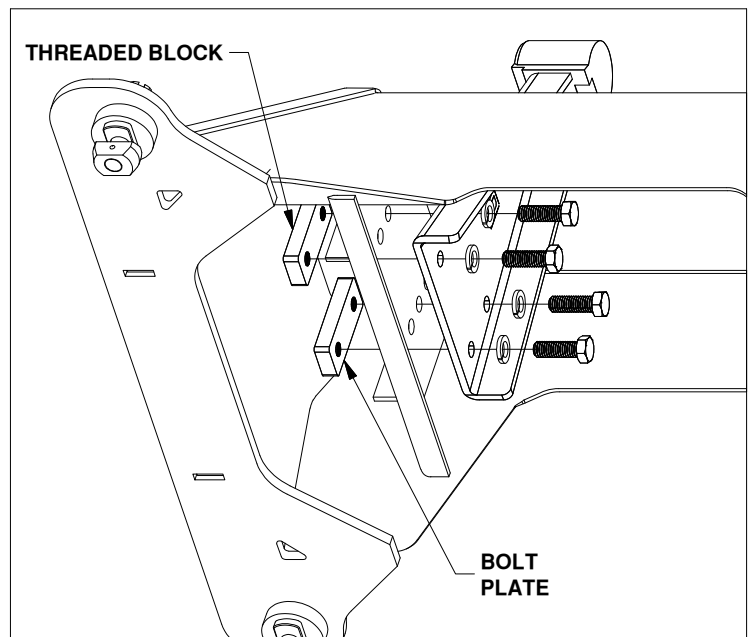

FIGURE A2: Passenger pivot arm mounting location.
- Locate both pivot arms, the four threaded blocks, eight 1/2" cap screws, and eight 1/2" split lock washers. Place the lock washers over the cap screws. Align the flat side of the pivot arm flat against the bolt plate and install four 1/2" cap screws through the holes on the arm, holding the arm in place, as shown in figure A2. Pass the threaded blocks under the bases side and align the block with each set of screws and start each screw, as shown in figure A2. After all the screws are started through the arms, torque each bolt to 80 ft-lbs.